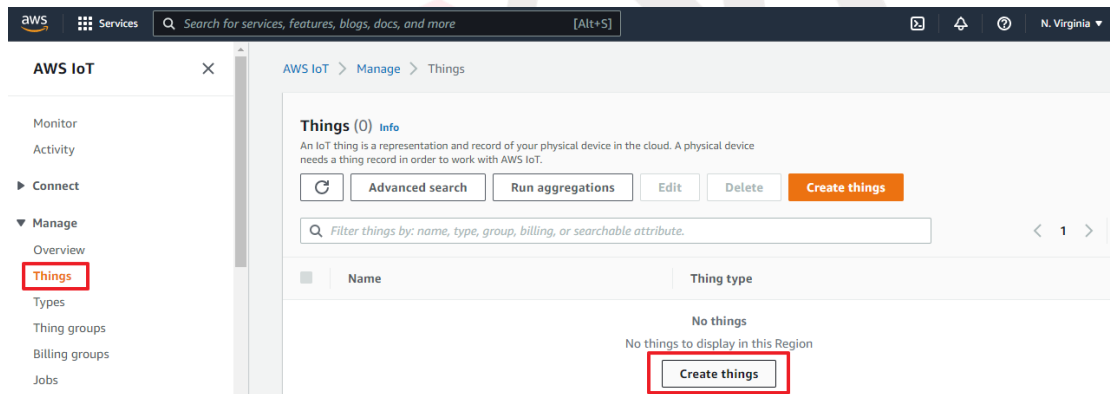

Figure 4-129 Ready to Create Thing
2. Next, expand the "Manage" section on the left-hand side of the dashboard and click on "Things" to proceed with creating a Thing as instructed (as shown in Figure 4-129).